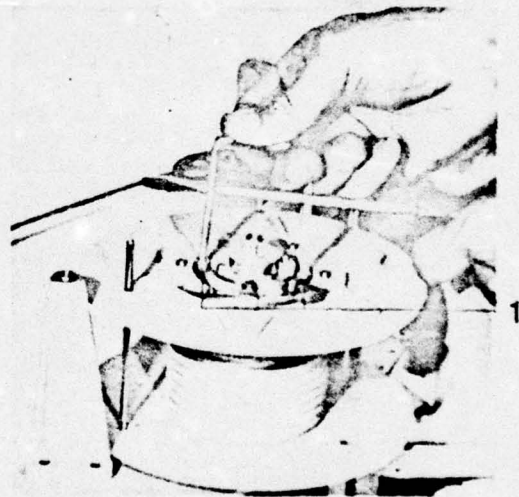

Figure 3.14
38. For adjustment, insert catch pin and loosen two cheesehead screws M5 DIN 912 (1, Figure 3.14). Then (as in Figure 3.14), insert two hexagonal socket screw wrenches and turn with screwdriver. Figure 3.14 shows the restoration of the coupling moment.